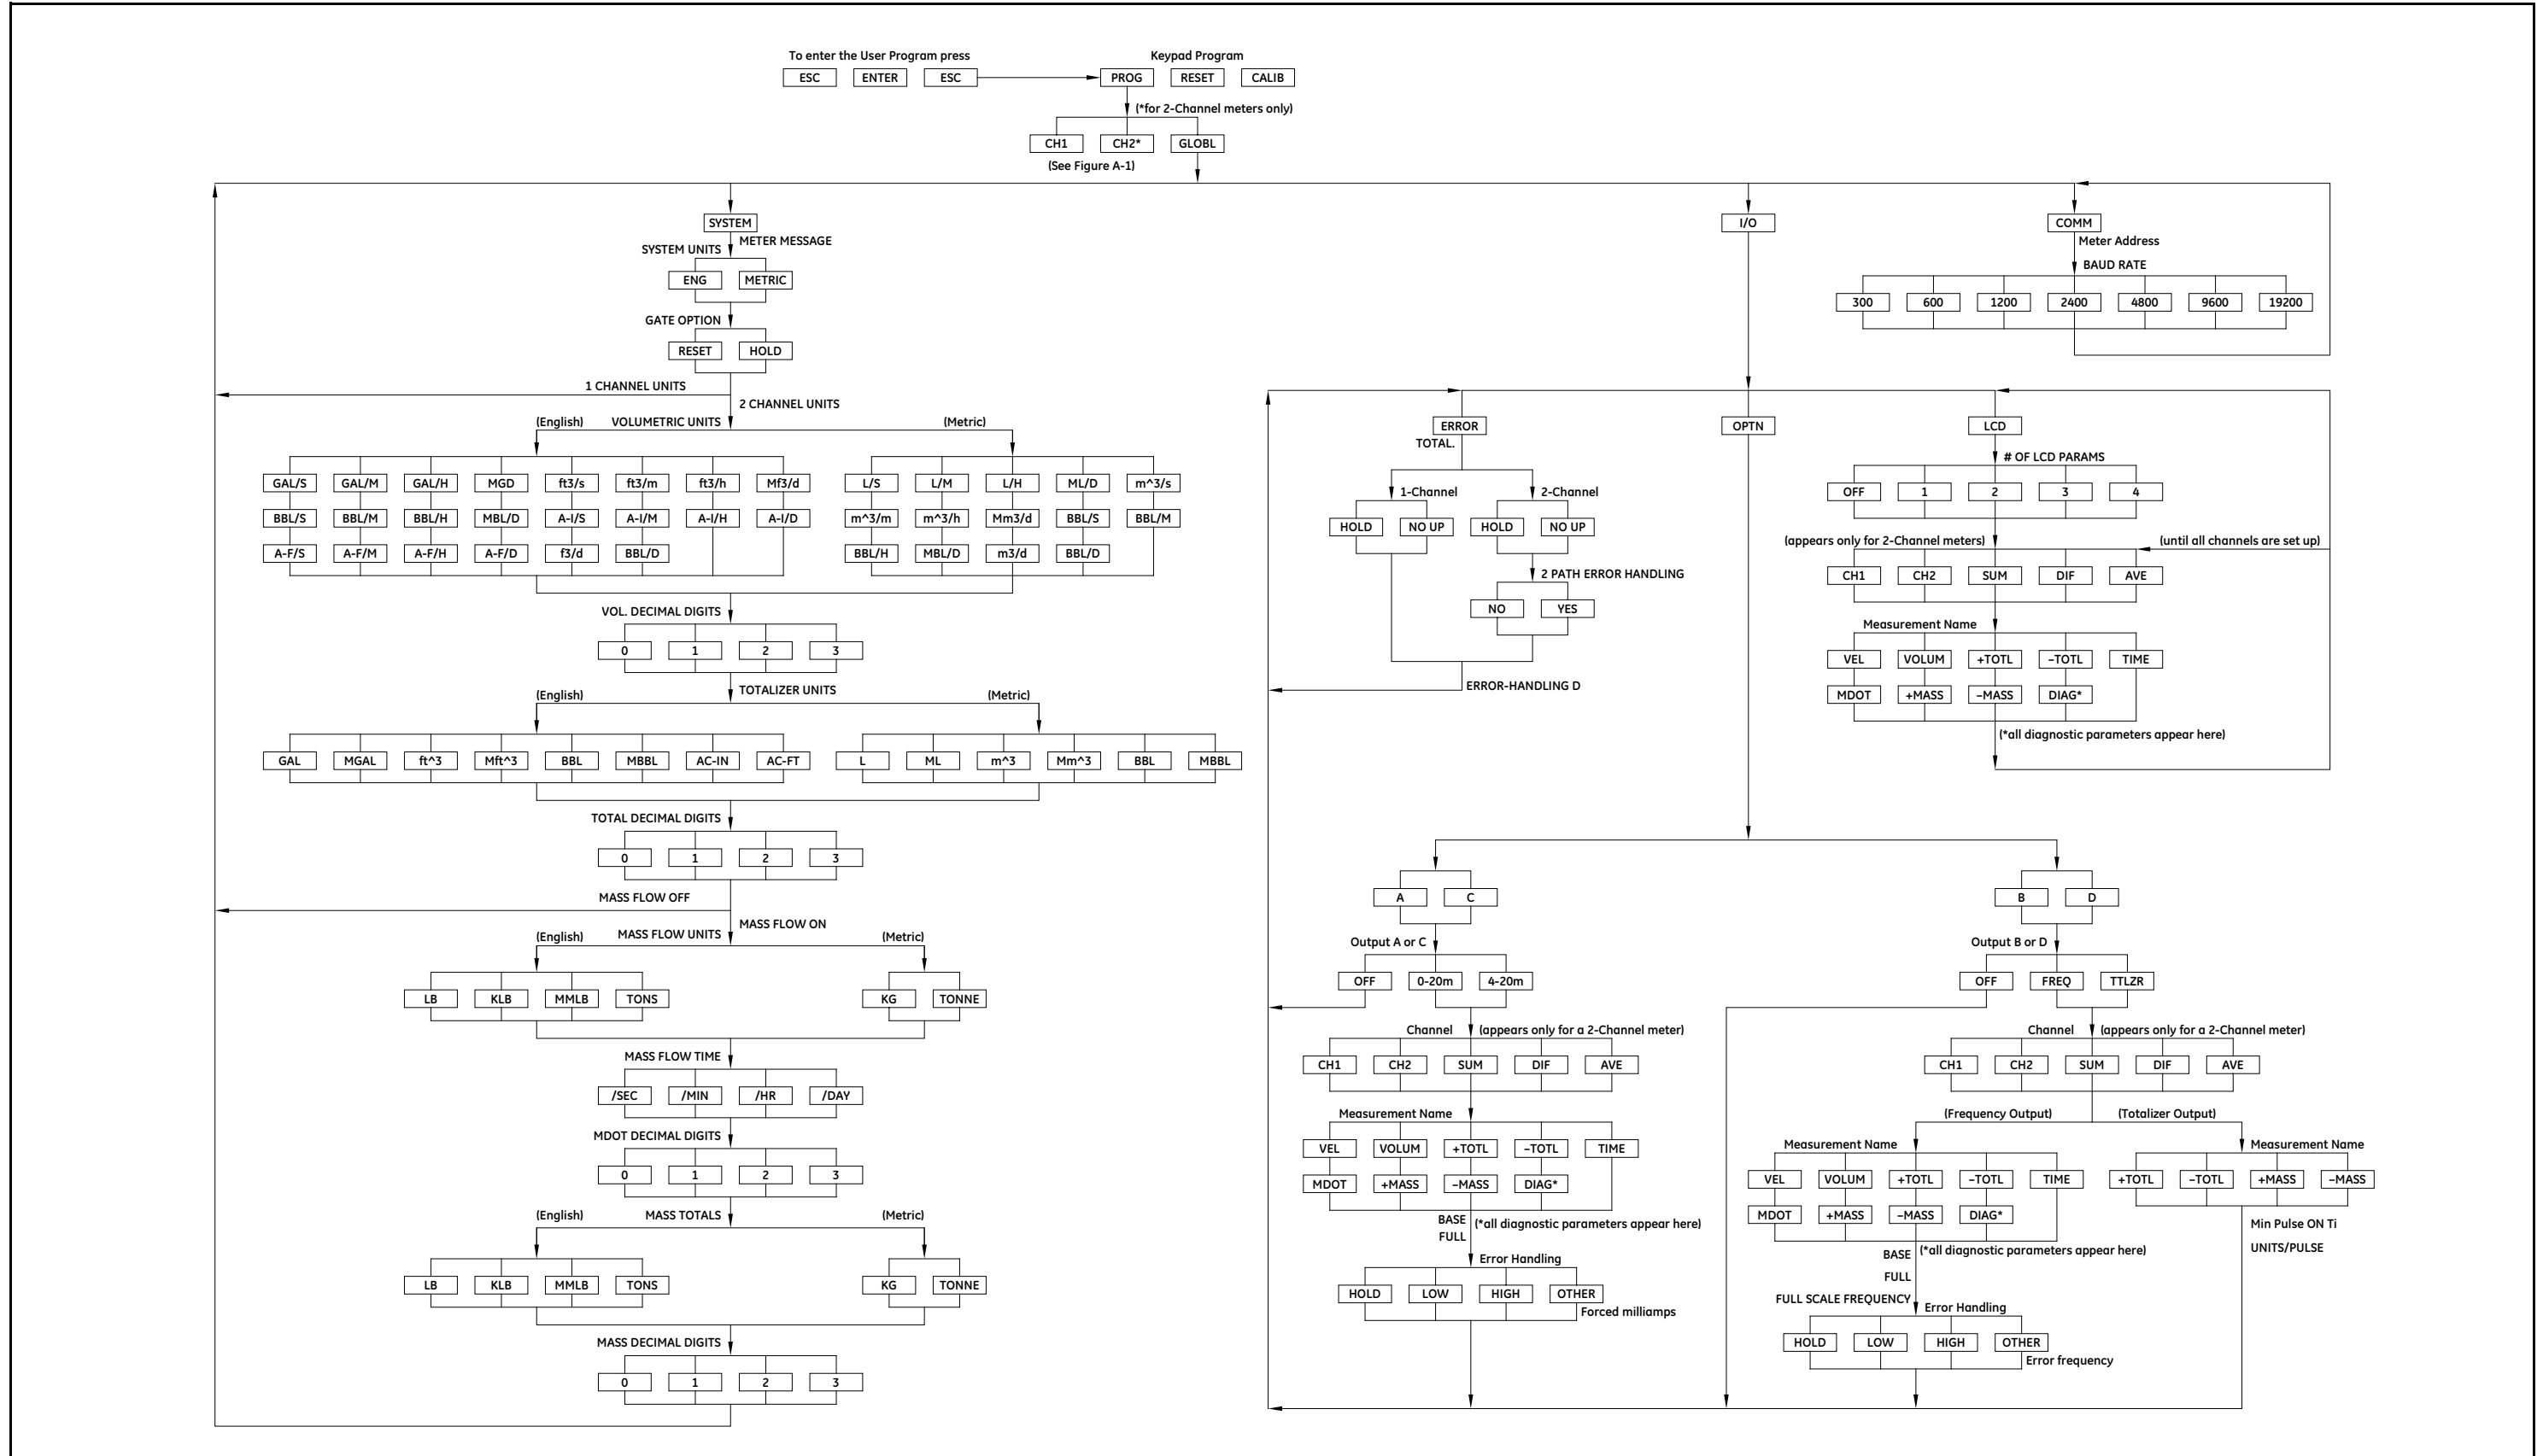

Figure 11: The GLOBL Menu Map
- Figure 11, “The GLOBL Menu Map,” on page 80